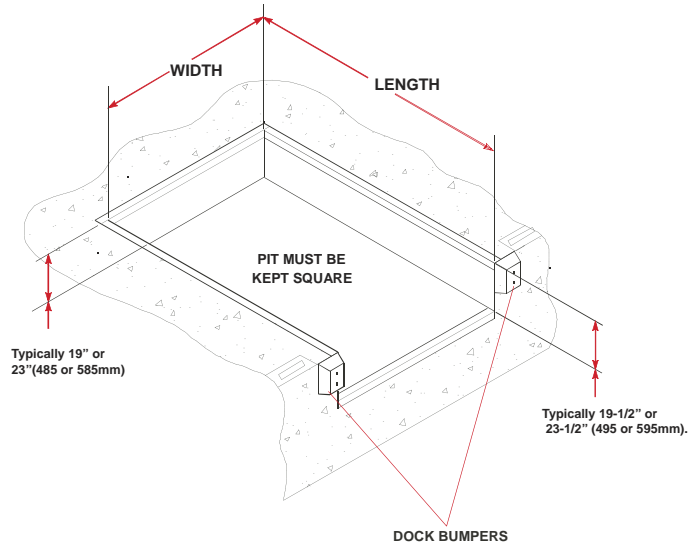

Figure 1 : Pit Layout - Typical (Four piece curb angle shown)
3. Measure height of dock leveler front corners, bottom of frame to top of deck plate, typically 19-1/2" or 23-1/2" (495 or 595mm). Measure depth of pit at both front corners where front bottom corners of frame will be positioned. Locate and place suitable shims (not supplied) at both front corners to produce a depth to match frame height. See Figure 1.